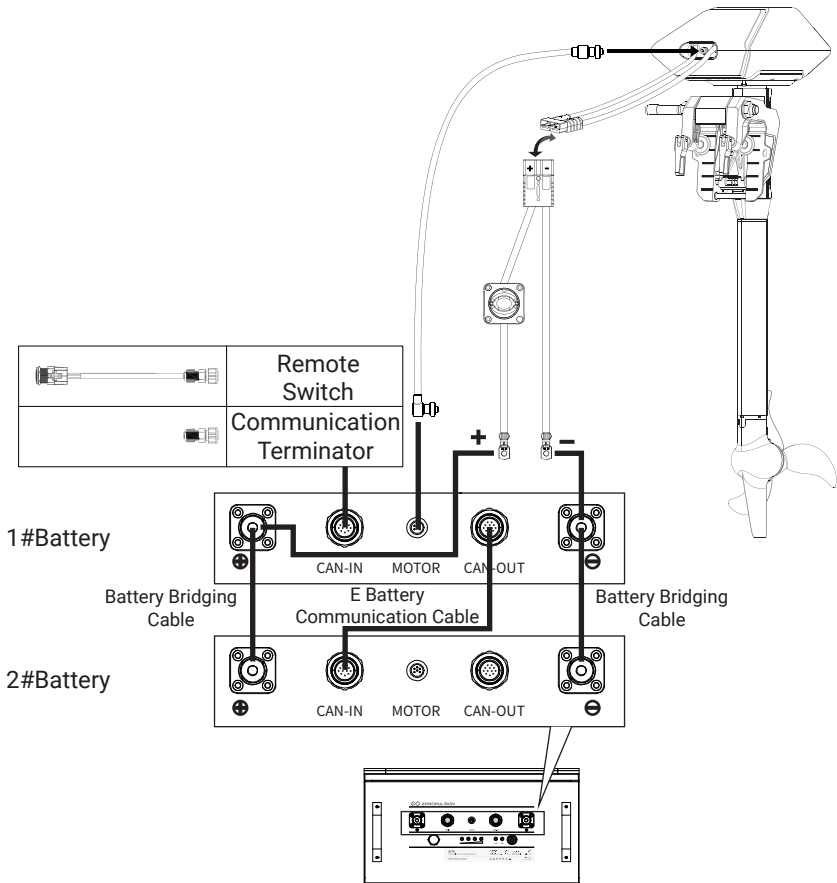

Figure 2-6
**⚠** When the parallel batteries are connected to the ePropulsion outboard motor, it needs to connect the outboard motor to 1# battery with the communication cable (refer to figure 2-6). And the outboard motor can only be connected with 1# battery.
**When multiple batteries of the same model are connected in parallel, you can only press the power button on the 1# battery (the battery connect to the machine, refer to figure 2-6) or the remote switch to turn on/off the batteries.**